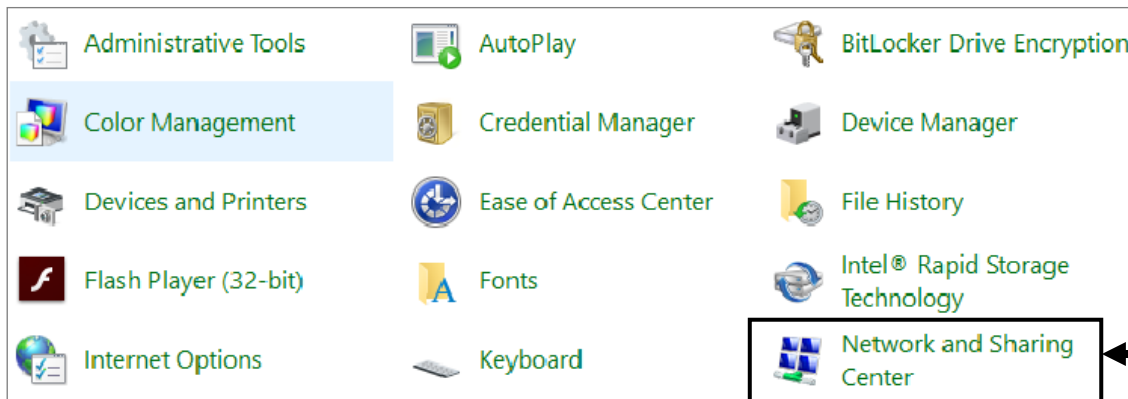

Fig 100. Select “Network and Sharing Center”
2. Make sure your network adapter settings are setup to communicate with the BMS Gateway. To do this, open the “Control Panel” on the computer and select “Network and Sharing Center” (Fig 100).